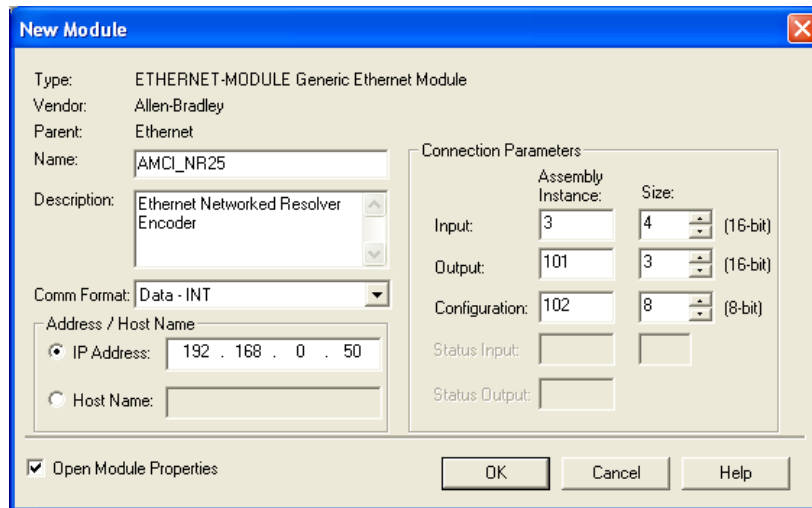

Figure 4.2 Sample NR25 Configuration Screen
- 3) Set the following parameters in the Module Properties window. All parameters not listed here are optional. Figure 4.2 shows a completed screen.